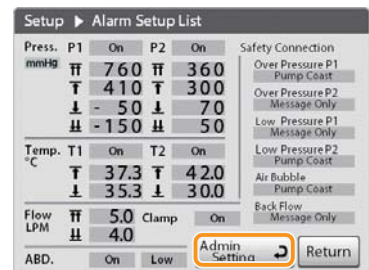

Figure 3-36
2. Tap [Admin Setting]. (Figure 3-36)